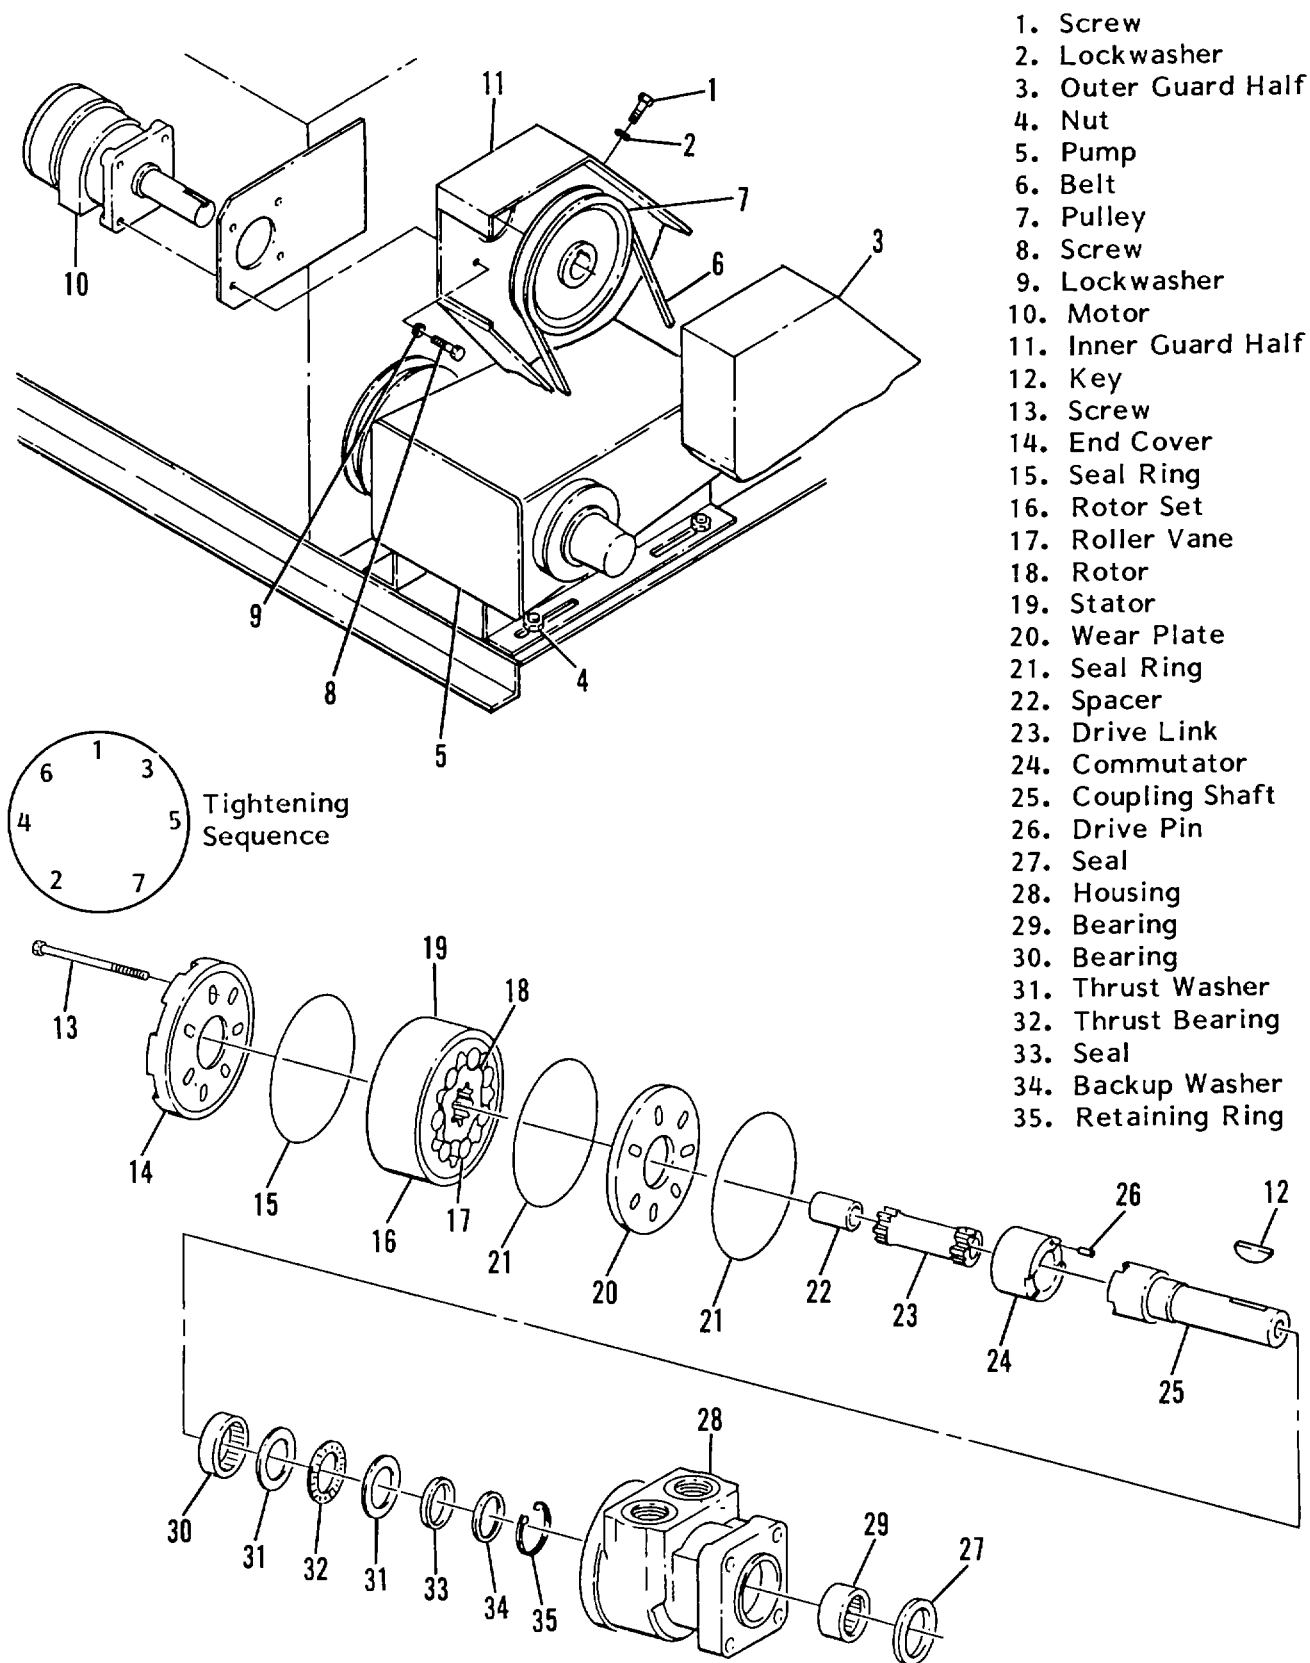

Figure 4-22B. Water Injection Drive Motor
4-8.3 Water Injection Drive Motor. (Figure 4-22B)
- s. Locate on the rotor (18) the only two spline teeth, 1800 apart, that are diametrically aligned (on the same center line) with two rotor lobes. Take the rotor set (16), seal ring (21) and wearplate (20) as a unit and align these two just located rotor spline teeth to mesh with the two drive link (23) spline valleys that are diametrically aligned with the timing mark on the coupling shaft (25) and install this unit onto the housing (28) with the wearplate against the housing. With the rotor set (16) now correctly in mesh with the drive link, rotate the rotor set (16), wearplate (20), drive link (23) and coupling shaft (25) to align the stator (19) and wearplate bolt holes with the bolt holes in the housing.
- t. Install drive link spacer/washer (22) into the rotor spline cavity onto the end of the drive link (23).
- u. Apply a small amount of clean grease to a seal ring (15) and insert the seal ring into the end cover (14) seal ring groove. Install end cover assembly onto the rotor set (16) with seal ring (15) against the stator (19) and align the end cover bolt holes with the stator bolt holes.
- v. Install seven bolts (13) into the assembly bolt holes finger tight, then torque the bolts to 22-26 ft.-lbs. Refer to tightening sequence, figure 4-22B.
- w. Position assembled motor (10), ports facing down, and inner guard half (11) to mounting bracket and install screws (8) and lockwashers (9).
- x. Install key (12) in motor shaft and push pulley (7) onto shaft and key. Place belt (6) around pulley (7) and pulley on injection pump (5). Slide the pump (5) on mounting studs to pull belt (6) tight and tighten nuts (4).
- y. Install the outer guard half (3) and secure with screws (1) and lockwashers (2). Attach hydraulic hoses to motor (10).